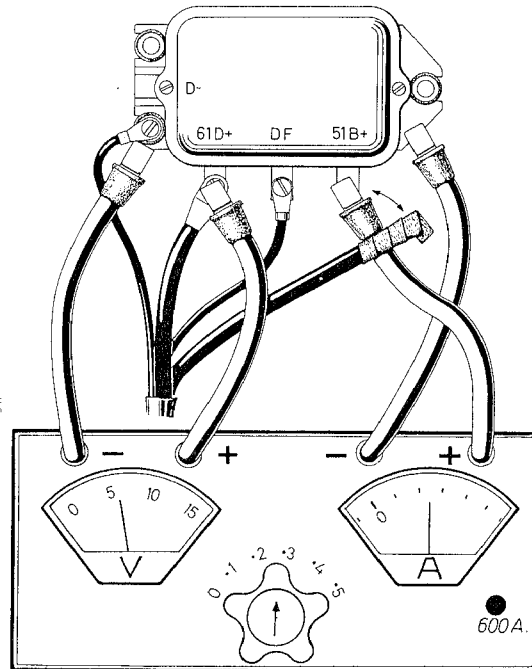

Fig. 9
1. Connect leads as in Fig. 8 and connect ammeter to terminal "51 B+" and ground as in Fig. 9.
1. Connection as in Fig. 9, generator running at test rpm.